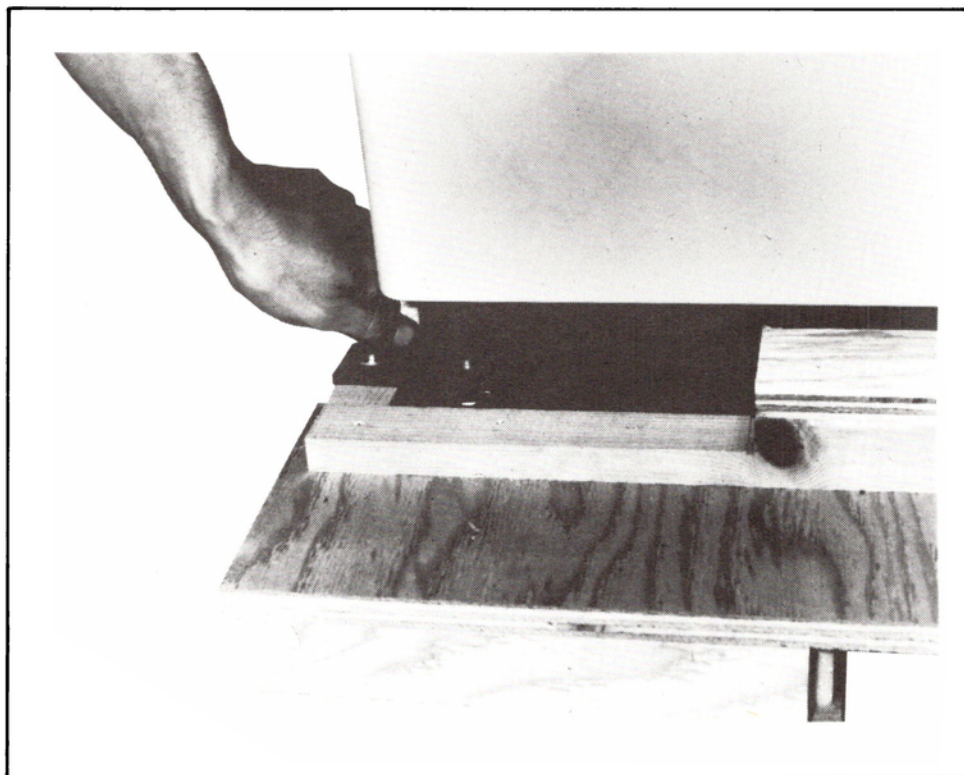

Figure 2-3. Removing The Securing Bolts
3. Remove the securing bolts from the levelers as shown in Figure 2-3.